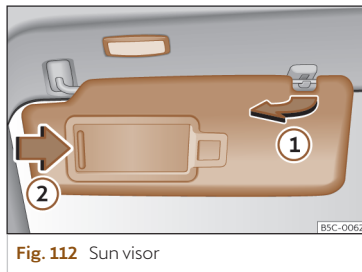

Fig. 112 Sun visor
- The sun visor can be pulled out of its mounting and turned towards the door >>> Fig. 112 ①.